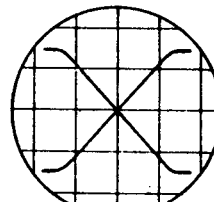

FIG 1
5. Turn variable condenser fully open, and band switch to right (FM).
8. Adjust ratio detector secondary slug No. A8 to center the cross over point of the pattern. Pattern should look like Fig. 1, with the same amount of curve on both ends, and the cross over point in the center.